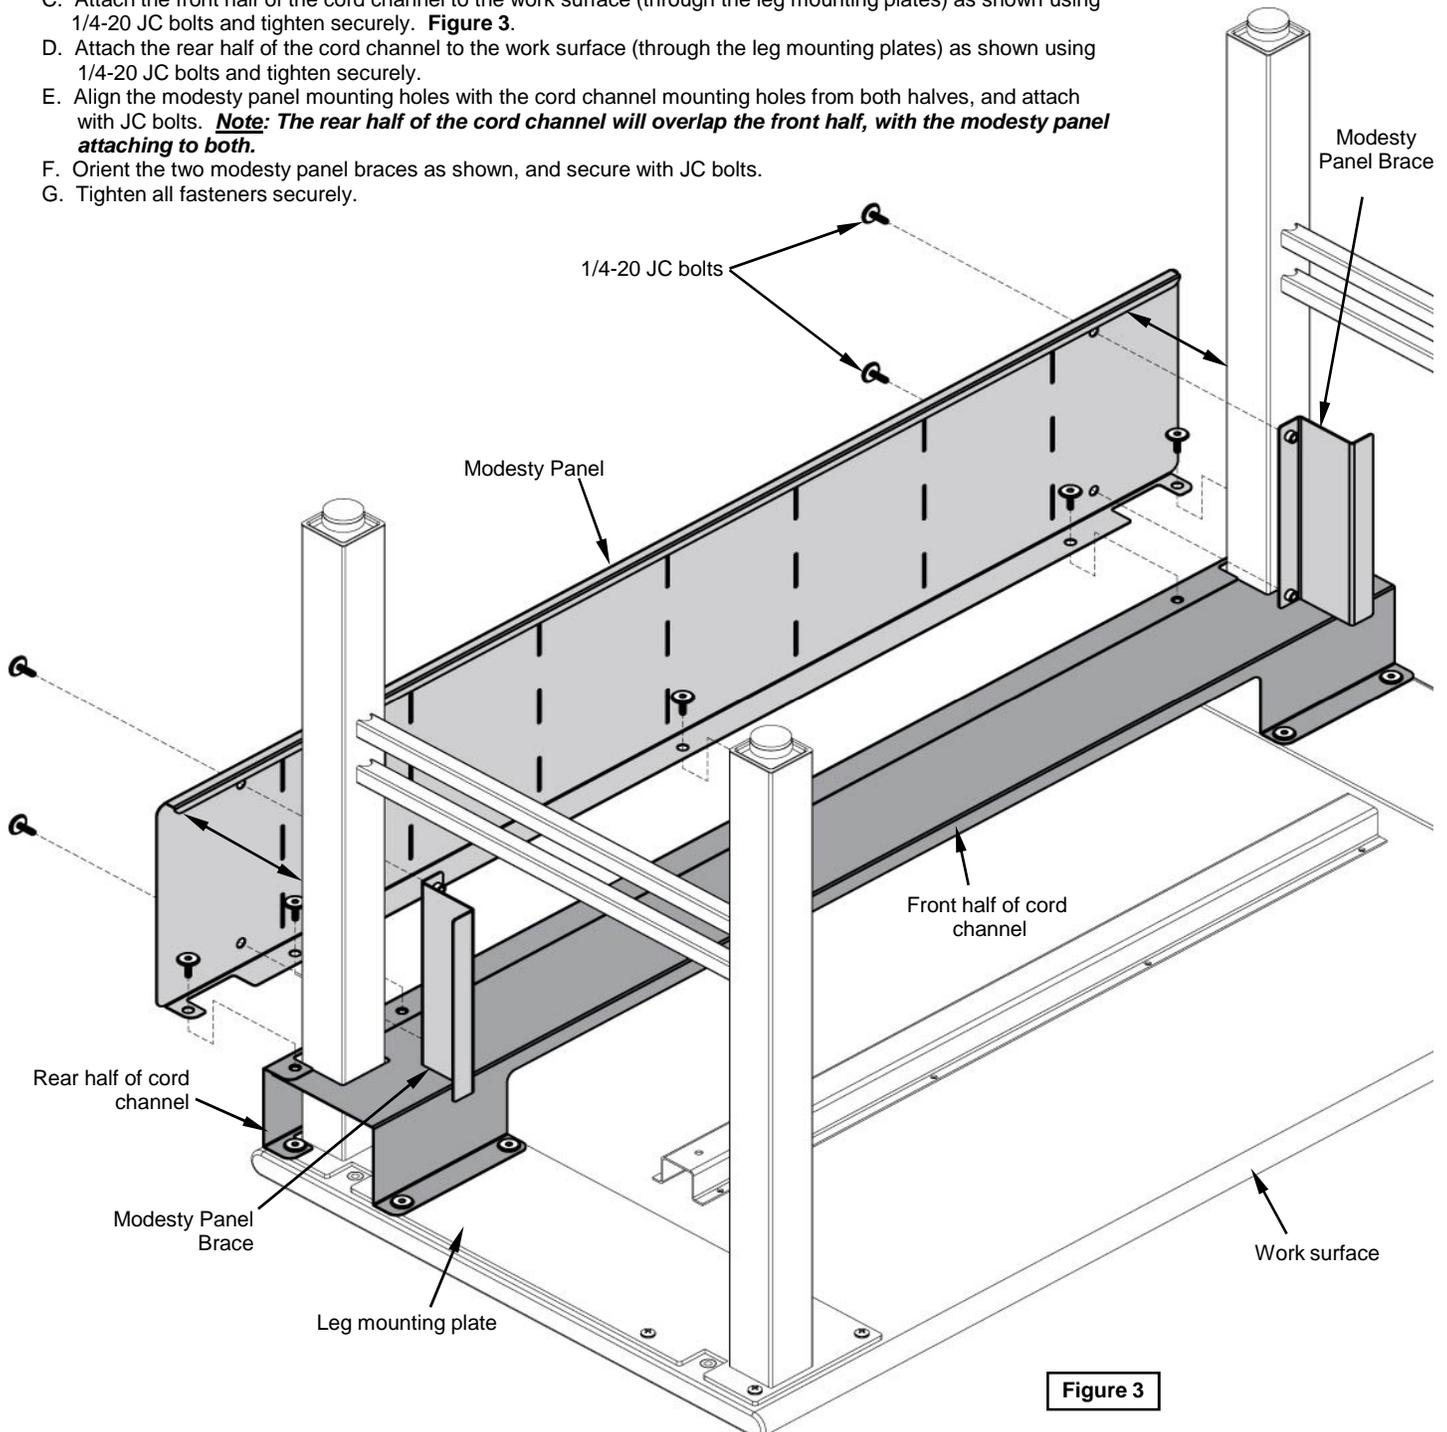

Figure 3
- C. Attach the front half of the cord channel to the work surface (through the leg mounting plates) as shown using 1/4-20 JC bolts and tighten securely. **Figure 3.**